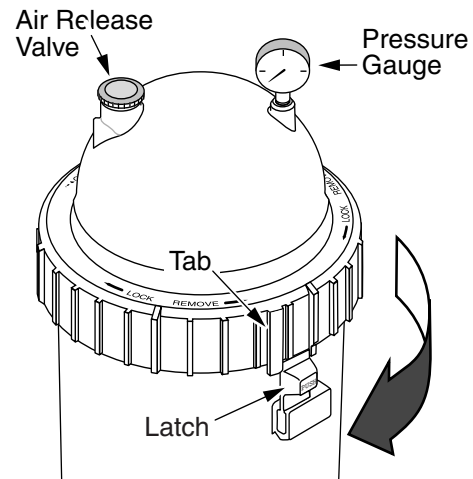

Figure 3 – Rotate Posi-Ring® until tab locks behind the safety latch.
1. Securely lock the Posi-Ring® in place by rotating it **CLOCKWISE** until it “clicks” past the safety latch (see Figure 3). Stop turning as soon as the ring clicks past the latch. The ring may feel slightly loose, but it will tighten up when pump is on and filter is under pressure.
2. Install the pressure gauge and the air release valve (See Figure 3) on the tank lid.
- C. Rotate the Posi-Ring® clockwise until it locks behind the safety latch (see Figure 3).